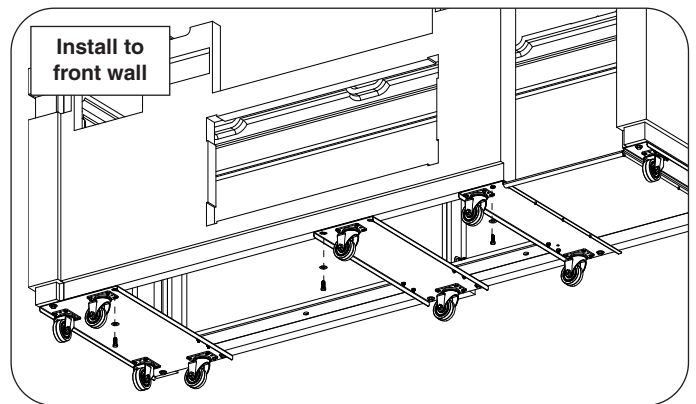

Fig. 7-3 Install wheel assemblies to bottom of front wall
6. Repeat the assembly process for the front wall using the three wheel assemblies as shown in Fig. 7-3.